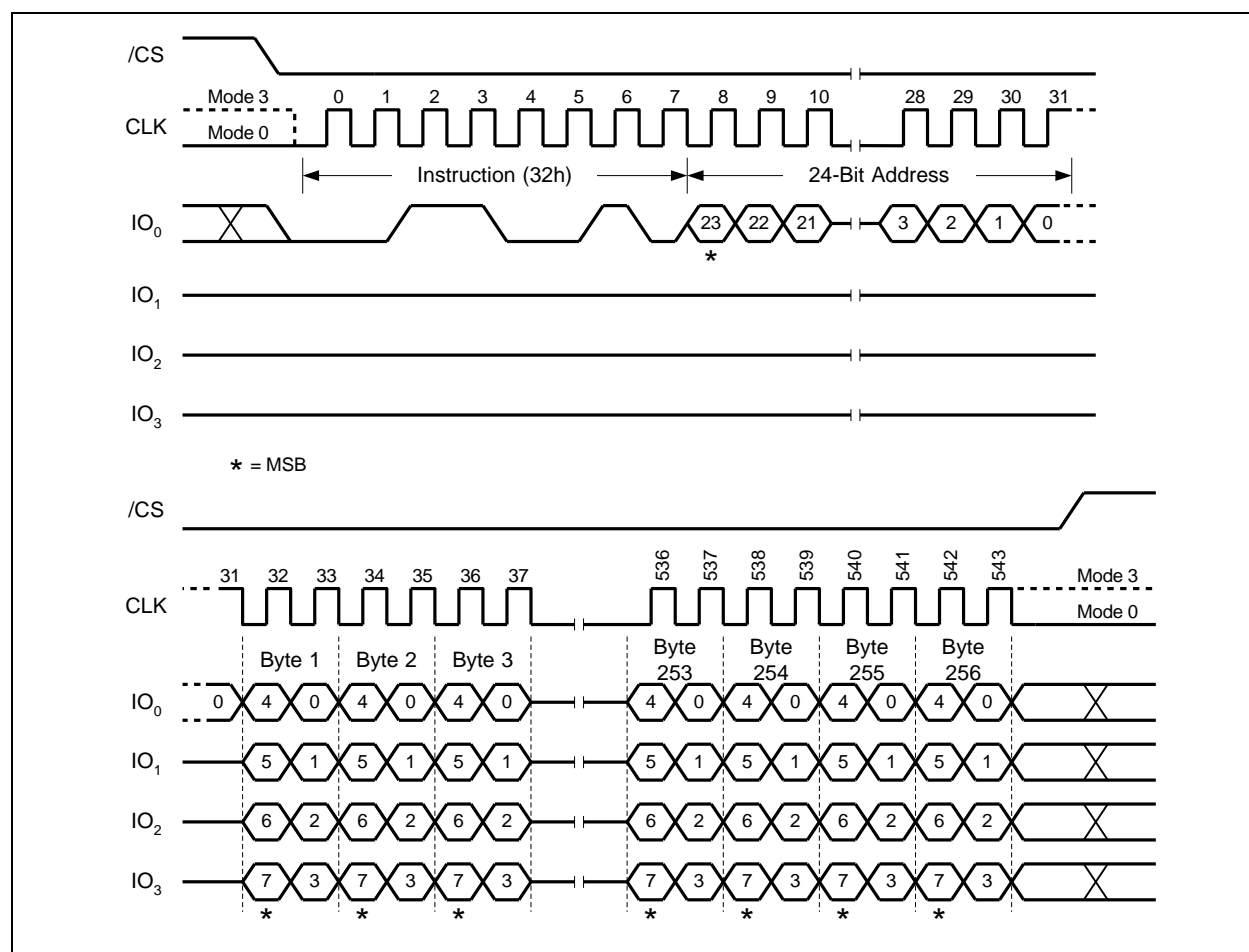

Figure 34. Quad Input Page Program Instruction (SPI Mode only)
To use Quad Page Program the Quad Enable (QE) bit in Status Register-2 must be set to 1. A Write Enable instruction must be executed before the device will accept the Quad Page Program instruction (Status Register-1, WEL=1). The instruction is initiated by driving the /CS pin low then shifting the instruction code "32h" followed by a 24/32-bit address (A₂₃/A₃₁-A₀) and at least one data byte, into the IO pins. The /CS pin must be held low for the entire length of the instruction while data is being sent to the device. All other functions of Quad Page Program are identical to standard Page Program. The Quad Page Program instruction sequence is shown in Figure 34.